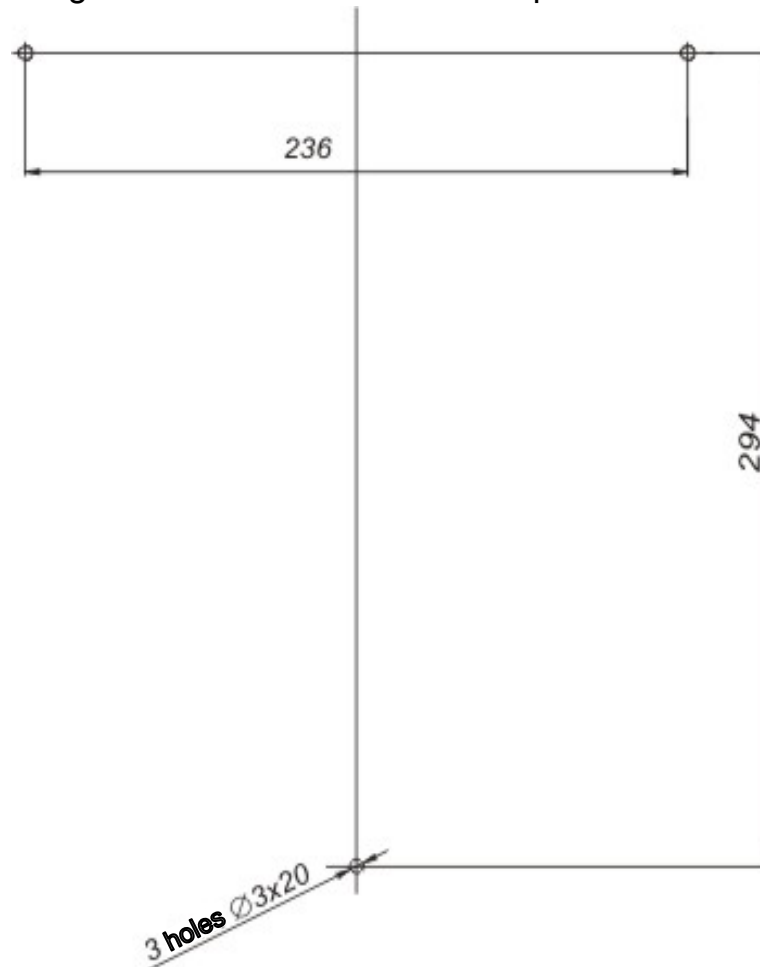

Fig. 7. Hole pattern for CU mounting
8.3.9. Mark out the holes for wall mounting of the control unit (8) as shown in Fig. 7. Drill the holes and insert the plastic dowels, included in the installation kit. Insert the top screws, suspend the control unit and fix it with the bottom screw to prevent the accidental pull off. Fix the control unit (8) considering that the convenient access to the toggle switches, fuses and indicators is provided (Fig. 3). The control unit (8) should be mounted on the wall upright with the connectors down. The AC power cable (12) should easily touch the mains plug.